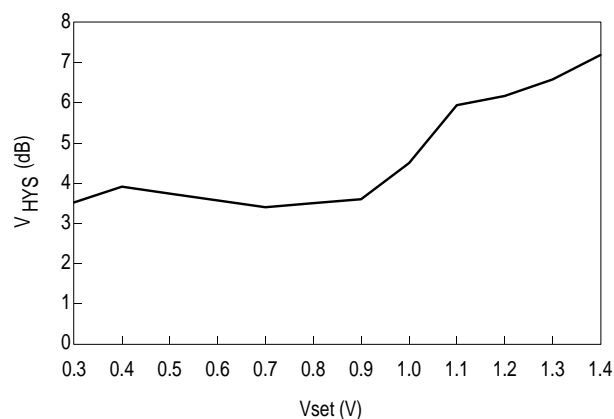

Figure 5. LOS Hysteresis ($T_A = 25^\circ C$)
2. This device has an anomaly in V_{HYS} when $0.65 < V_{SET} < 0.75V$. Operation in this region is not recommended. (See Figure 5)